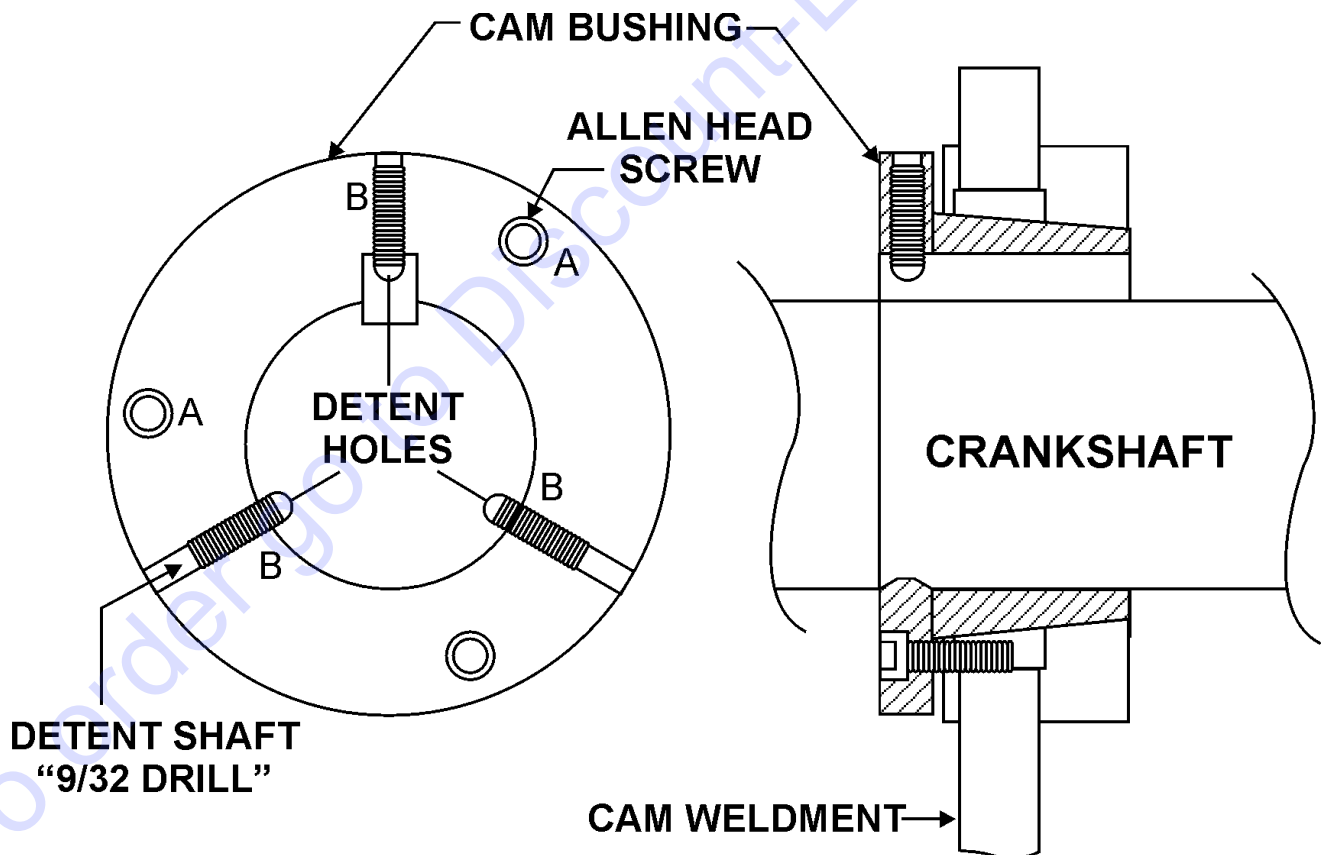

Figure 24. Detent Holes
1. After the bearing assembly has been installed, remove the three "dog type" allen head set screws (B) to allow detents to be drilled. See Figure 24 below.